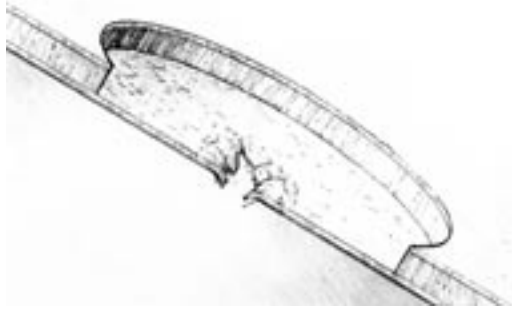

Figure 5-15 Cut back the outer skin and core several centimetres from the hole in the inner skin.
2. Cut back the outer skin and core several centimetres from the edge of the hole in the inner skin to provide an area wide enough to grind a 12-to-1 bevel around the edge of the inner skin (*Figure 5-15*). Use a router with a straight fluted bit set to the depth of the outer skin and core to avoid cutting the inner skin. Cut back the core and outer skin 12 times the thickness of the inner skin plus about 25mm to provide room to grind the inner skin bevel. For example, if the inner skin is 6mm thick, the bevel will extend 75mm from the edge of the hole. The core and outer skin should be cut back about 100mm from the edge of the hole in the inner skin.